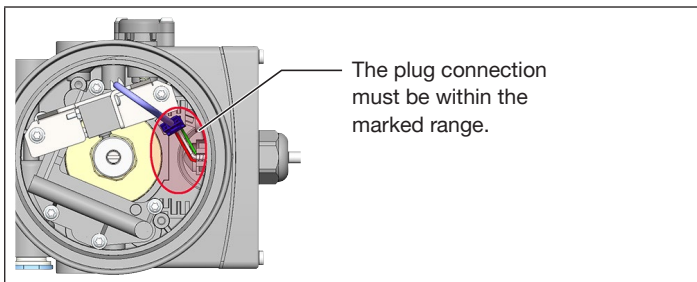

Fig. 8: Position of the electrical plug connection in the position sensor
- When tightening the cable gland, pay attention to the position of the plug connection (see marked area in “Fig. 8”).